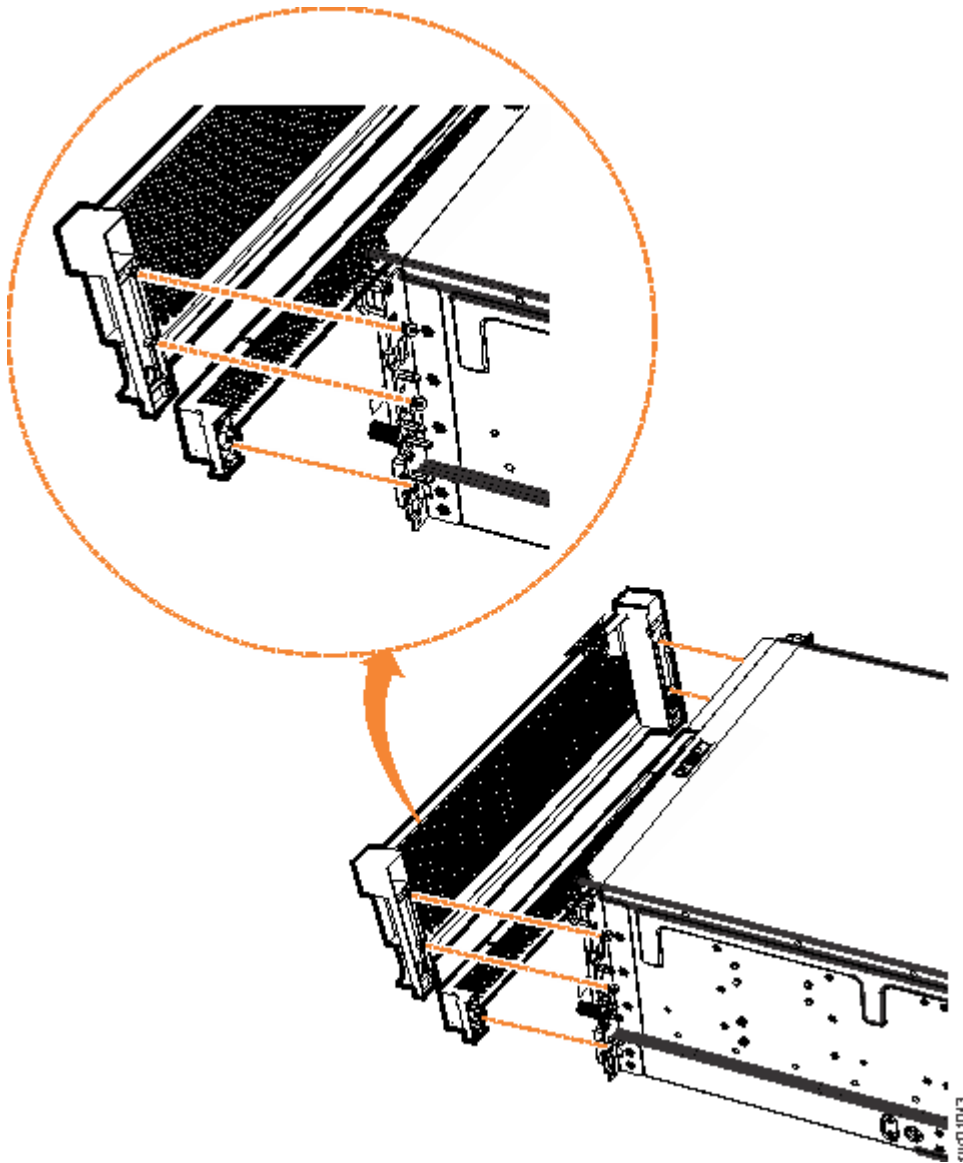

Figure 153. Remove fascia components from the expansion enclosure
2. Remove the front fascia by removing the two screws that attach the fascia to the flange on each side of the chassis, as shown in Figure 153 on page 213.
3. Gently pull on each side of the PSU fascia to remove it from the chassis, as shown in Figure 153 on page 213. The PSU fascia disengages from the slot and pin that connect it to each side of the chassis.